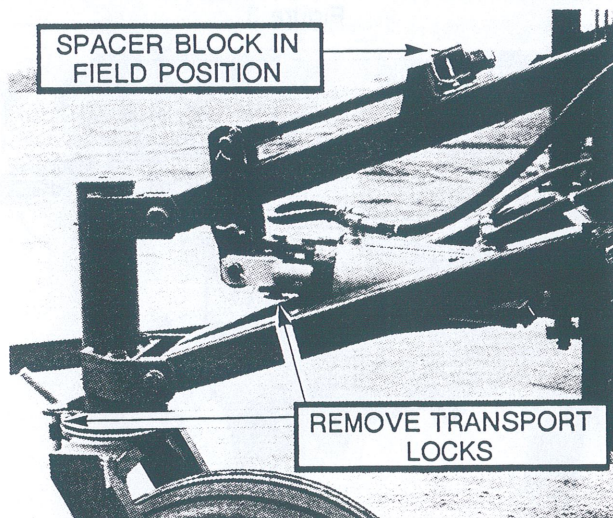

Figure 2
- Remove two transport Lock Pins from Main frame Gauge Wheel. Figure 2.
- Lower machine fully, raising wheels off the ground. Place transport spacer block between the adjustment nut and the lug on bracket. Figure 2.